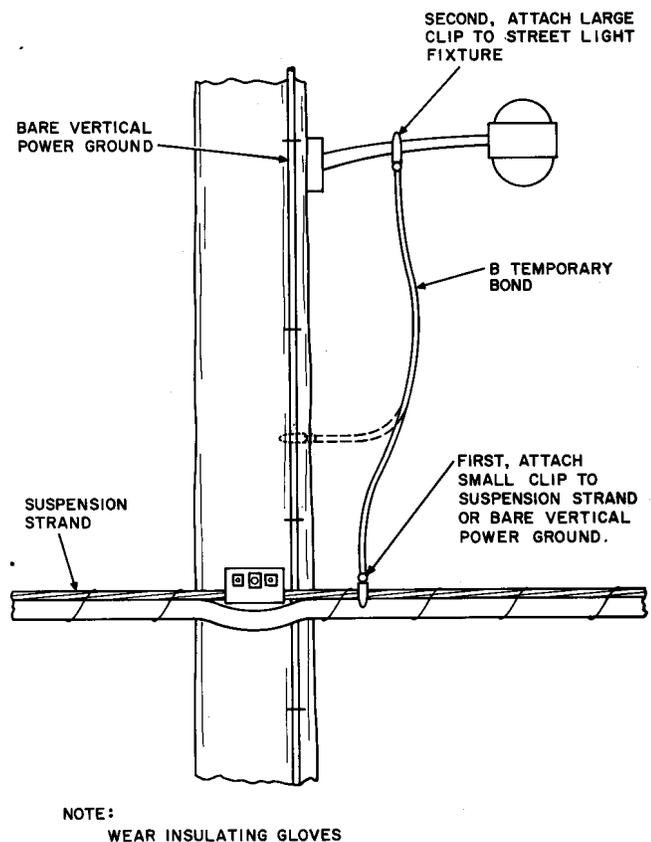

Fig. 11—B Temporary Bond Attachment to Streetlight Fixture
5.04 If the indicator does not glow, contact the fixture with the probe again to be sure that good contact has been made. If the indicator still does not glow, place a temporary bond as follows (Fig. 11):